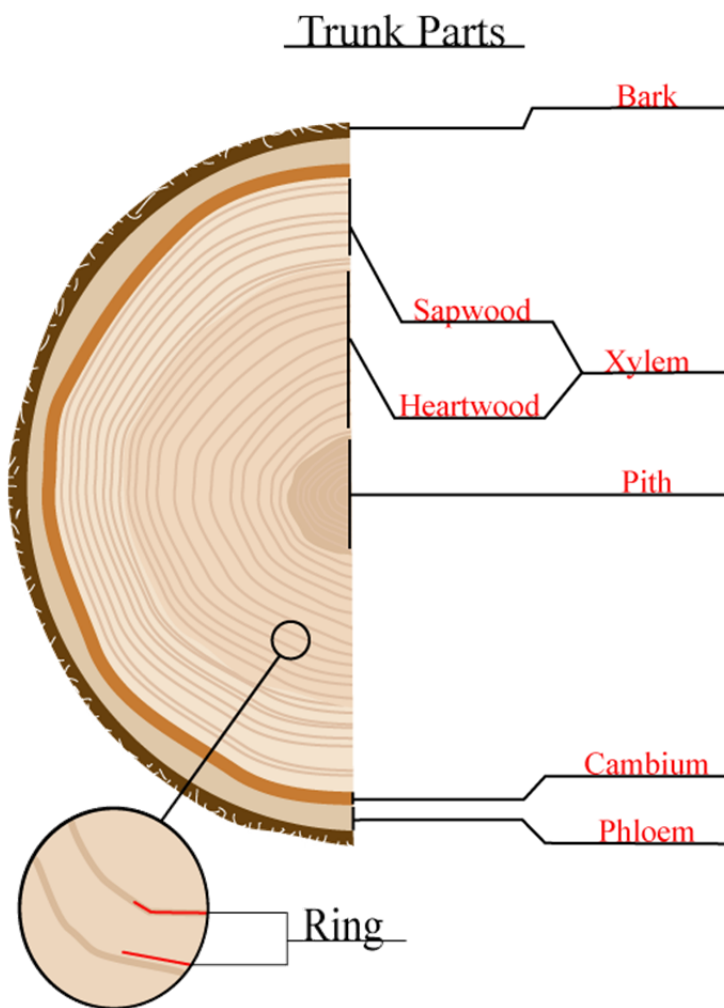

Figure 1: Cross section of a tree trunk or half of a ‘tree cookie’ showing parts described on previous page.
- Locate the “**Trunk Puzzle**” found in your box, and place the pieces so that they fit together as shown in Figure 1 below.
Often you can tell a lot about a tree's history by looking at a slice or cross section of its trunk. As a tree grows, it lays down two tissue layers. The **early wood** forms during the wet spring season, which is when the tree grows most rapidly. In the drier period from summer to winter, the **late wood** forms. As a result, the colors and density of these two layers are different from each other. In the winter, the tree stops growing and becomes dormant, or inactive. Because of this growing process every year, the wood of a tree develops what looks like rings, two per year of growth. Look at the picture of the tree cookie shown in Figure 1 as an example. You can count the rings to see how old a tree is. Be sure to divide this number by two though! The tree rings can also inform you of past weather patterns and disturbances like fire.